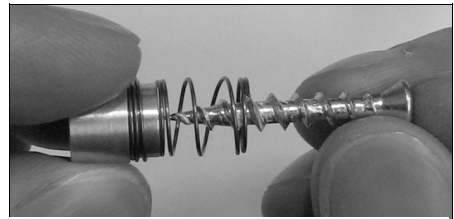

Fig. 4
3. Insert the #7 x 1" drywall screw (only one supplied) into center of the **short** rear tamper actuator (Fig. 4).